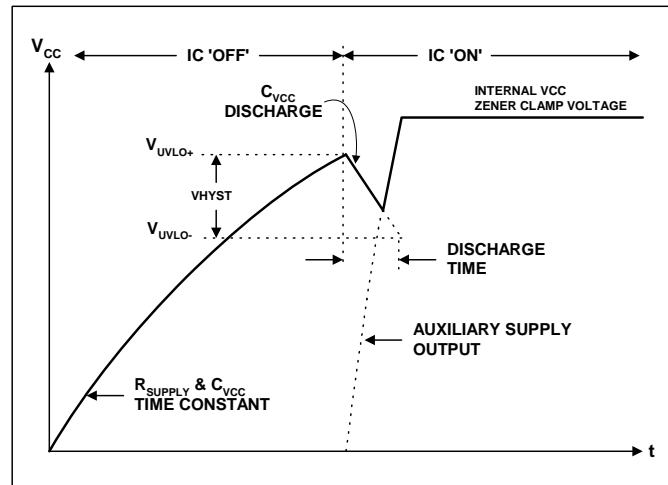

Figure 3, IC supply voltage during turn-on
on VCC reaches the start-up threshold (UVLO+), and, the voltage on RST pin is less than 1.5V, the IC turns on and the full-bridge oscillator (CT) and gate driver outputs (HO1, LO1, HO2 and LO2) begin to oscillate. The capacitor from VCC to COM begins to discharge due to the increase in IC operating current. An auxiliary supply (secondary winding, charge pump, etc.) should then take over as the main supply voltage before VCC discharges to the IC turn-off threshold (Figure 3) and charge VCC up to the internal zener clamp diode voltage (15.6V typical). During UVLO mode, the full-bridge and buck are off, the ignition timer and clock are off, the fault and good counters are reset, and the fault latch is reset.